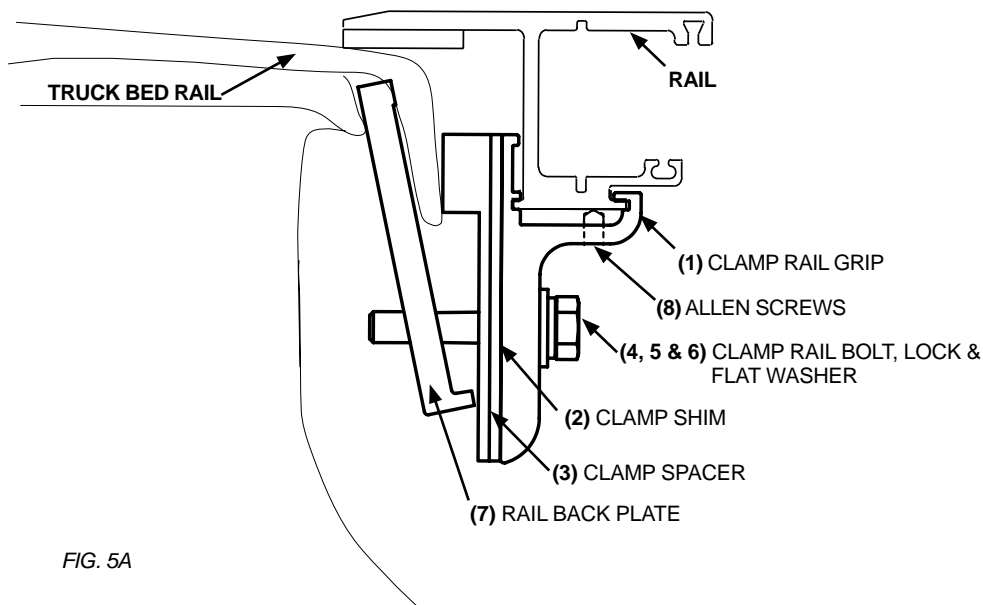

FIG. 5A
Place the 4 Allen Screws (8) in the clamp rail grips as indicated in Figure 5a and tighten them.